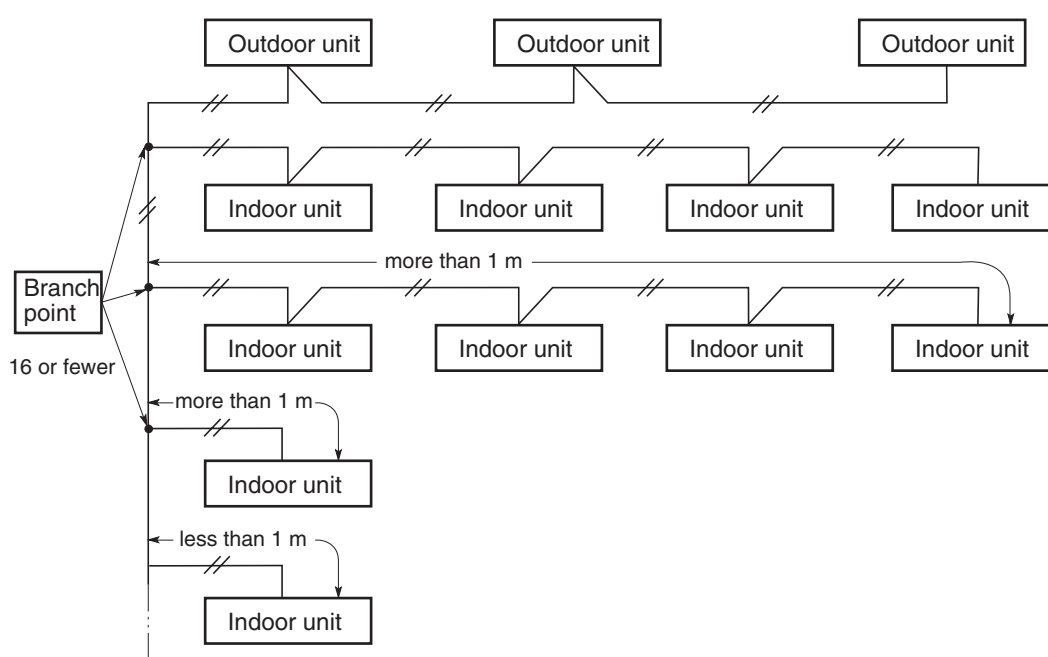

Fig. 2-4
- (4) If branching the inter-unit control wiring, the number of branch points should be 16 or fewer. (Branches less than 1 m are not included in the total branch number.) (Fig. 2-4)